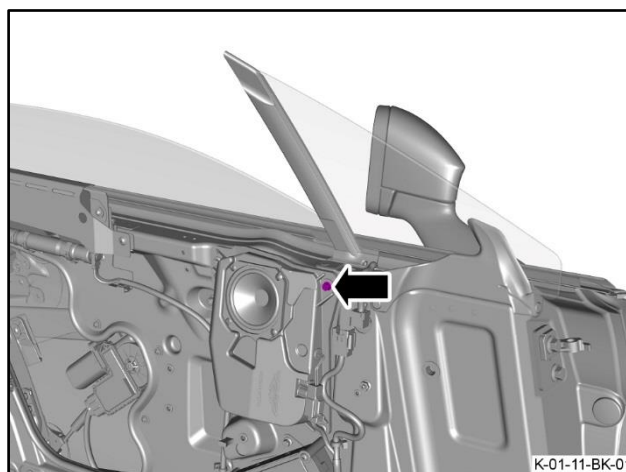

Figure 42
32. Torque the bolt that attaches the division bar and quarter glass assembly to the door to 6 Nm (refer to Figure 42).